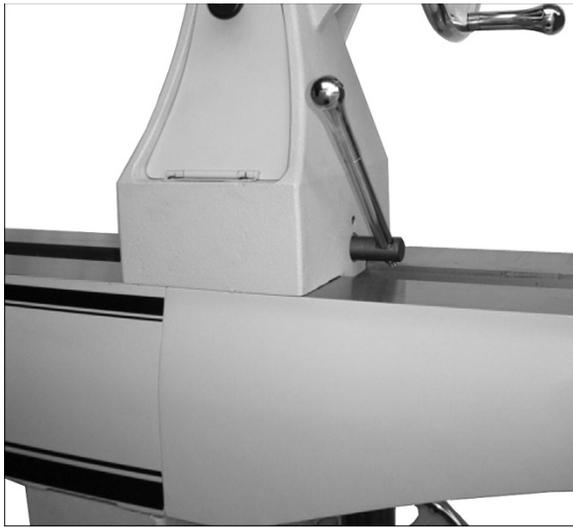

Figure 14
4. Slide tailstock over joint where beds meet, so that clamping nut is centered over joint (Figure 14). Lock tailstock clamping handle; this will align the beds.